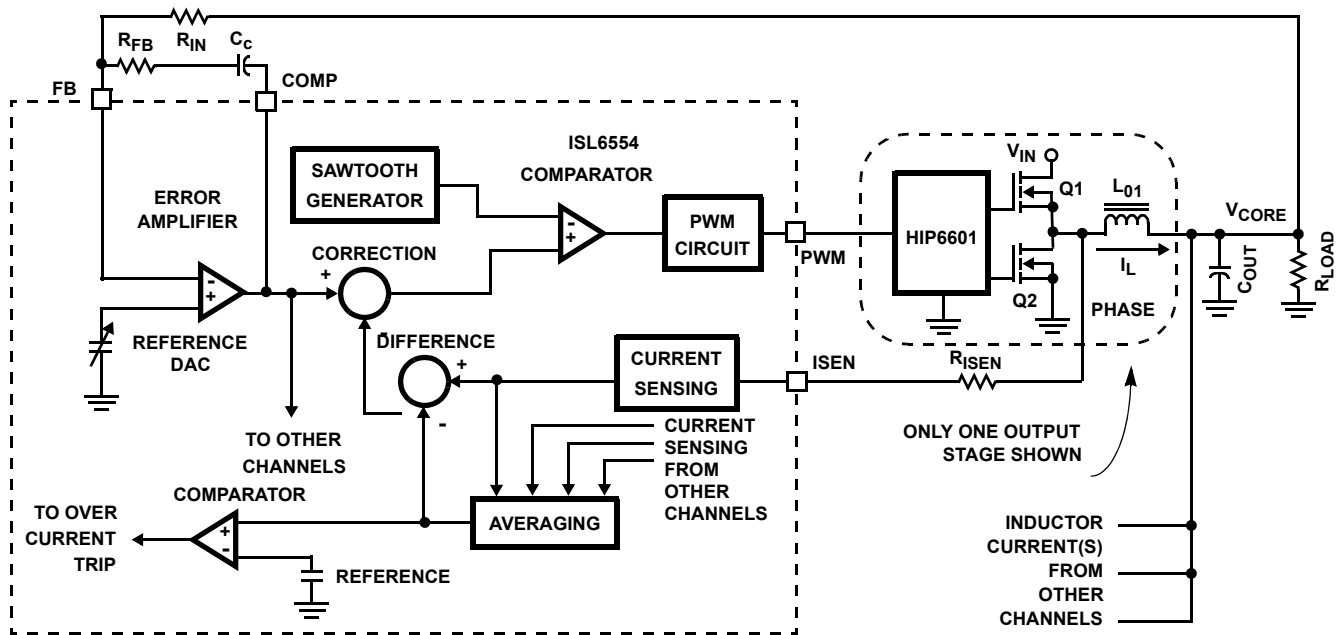

FIGURE 7. SIMPLIFIED FUNCTIONAL BLOCK DIAGRAM SHOWING CURRENT AND VOLTAGE SAMPLING
The ISL6554 samples the on-state voltage drop across each synchronous rectifier MOSFET, Q2, as an indication of the inductor current in that phase (see Figure 7). Neglecting AC effects (to be discussed later), the voltage drop across Q2 is simply rDS(ON)(Q2) x inductor current (IL). Note that IL, the inductor current, is either 1/2, 1/3, or 1/4 of the total current (ILT), depending on how many phases are in use.